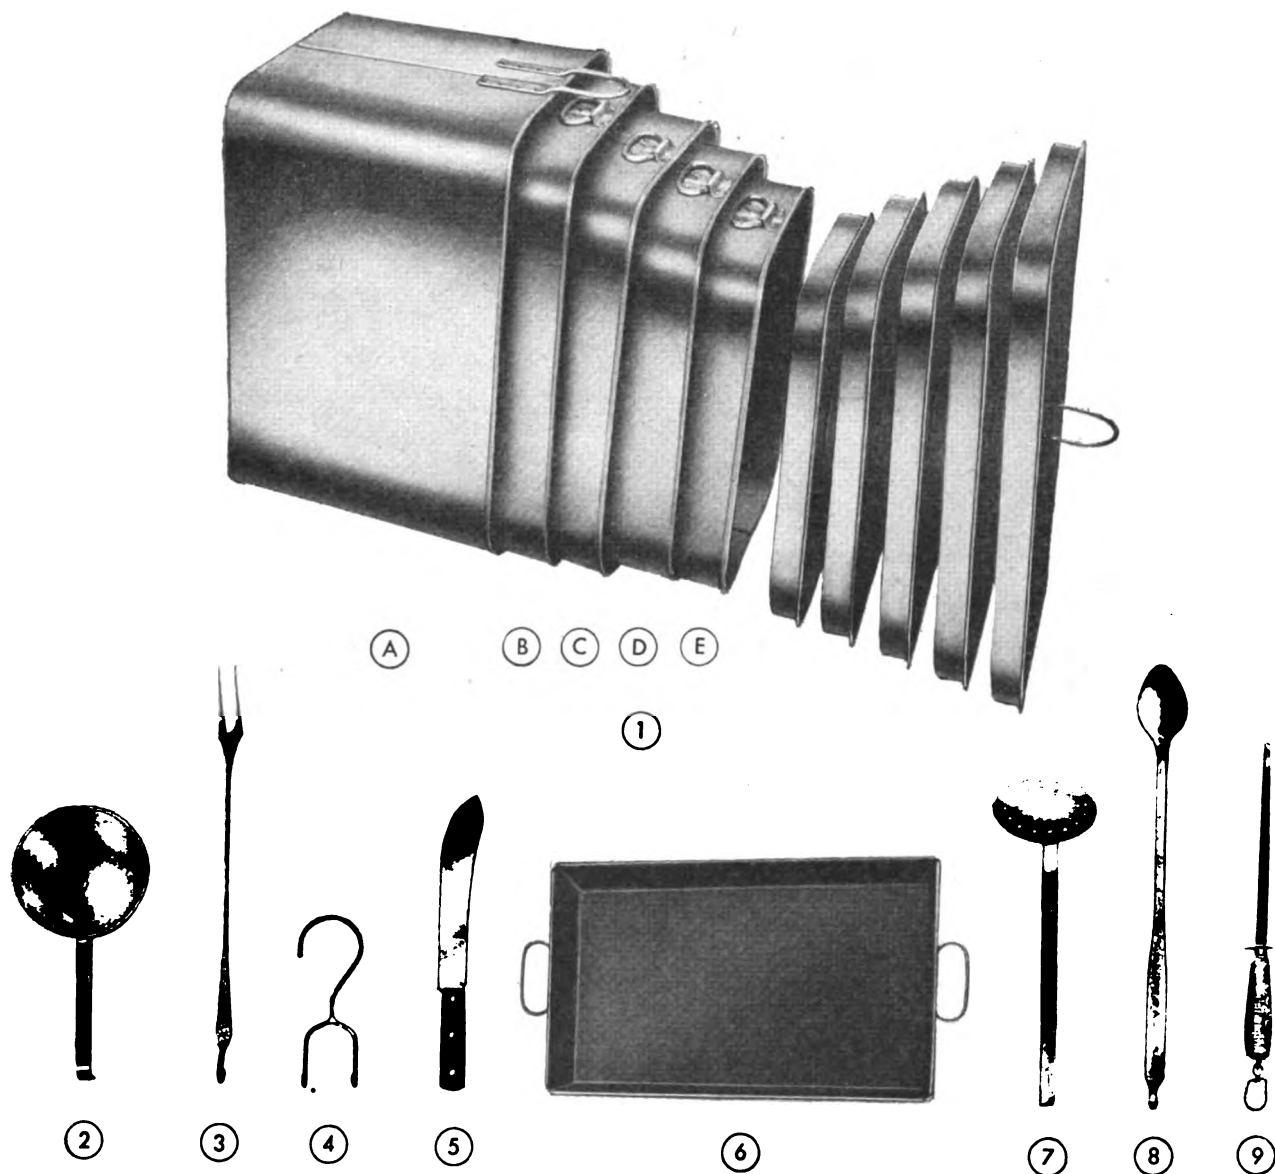

Figure 29. Outfit, cooking, Philippine Scouts, complete (64-O-215).
d. The outfit, cooking, Philippine Scouts, complete (see fig. 29) is made up of the following components: